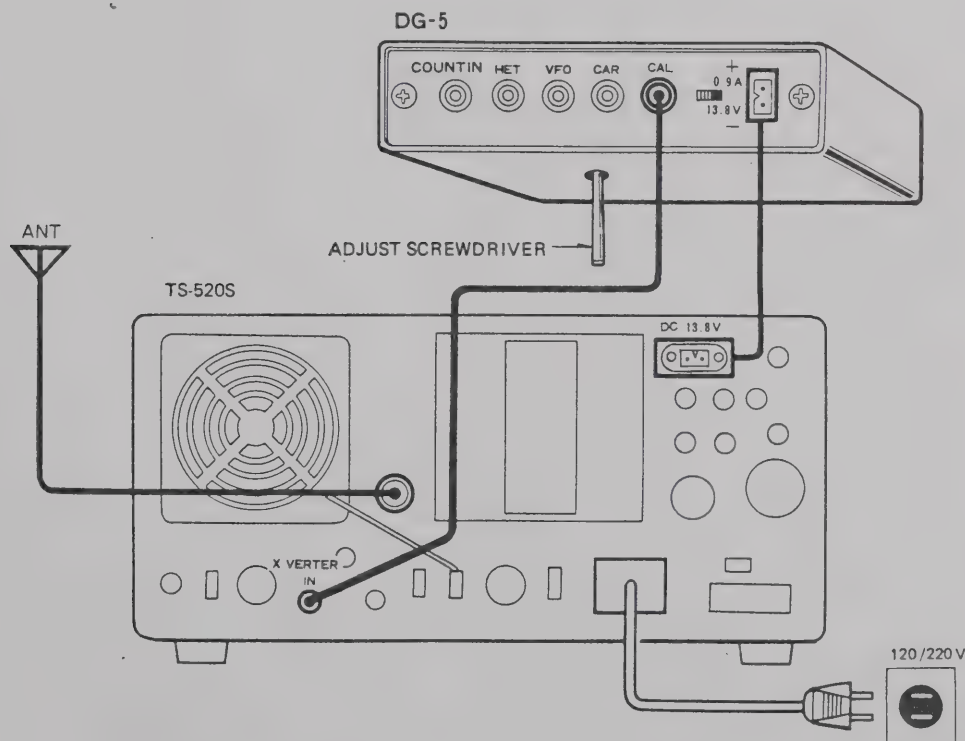

Figure 7. Reference Oscillator Calibration.
2. Connect the supplied signal cable from the DG-5 CAL connector to the TS-520S XVERTER IN connector as shown in Figure 7. The fifteenth harmonic of the DG-5 reference oscillator fundamental, 1 MHz, will superimpose on the 15MHz WWV signal. Then you will hear of an impure, double beat
3. Adjust the trimmer located inside the bottom cover using an adjust screwdriver until the impure beat becomes clear, as shown in Figure 7. For more precise adjustment, the S meter on the TS-520S is helpful. The S meter pointer will vibrate finely on either side of the true calibration point. As the reference oscillator frequency comes close to the calibration point, the pointer deflection becomes large and slow. When it is largest and slowest, set the trimmer.